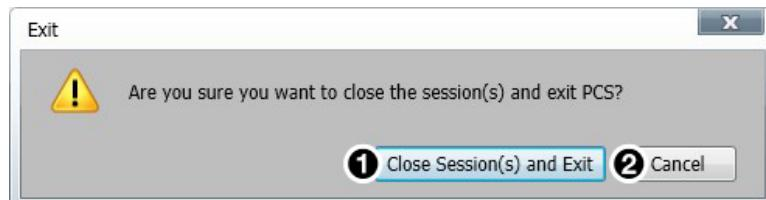

Figure 38. **Exit Dialog Box**
1. From the **Software** menu, select **Exit**. If device tabs are open, the **Exit** dialog box opens (see figure 38).